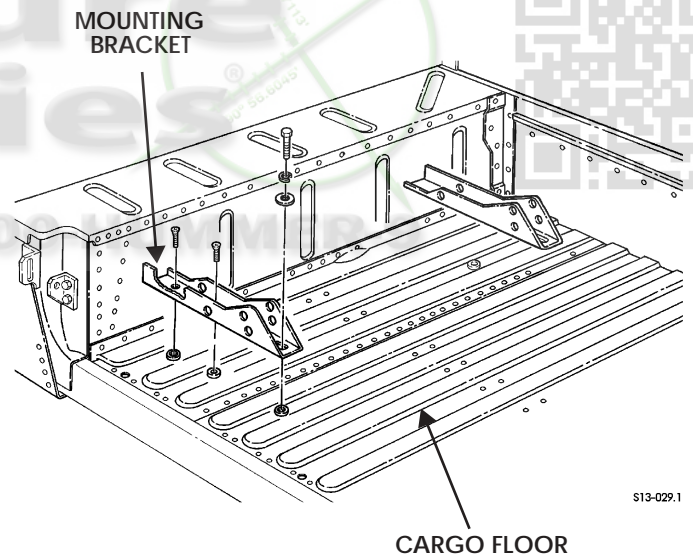

Figure 13-32: Mounting Brackets
6. Remove four screws securing mounting brackets to cargo floor (Figure 13-32).
1. Install mounting brackets on cargo floor with two washers, lockwashers, and capscrews (Figure 13-32).